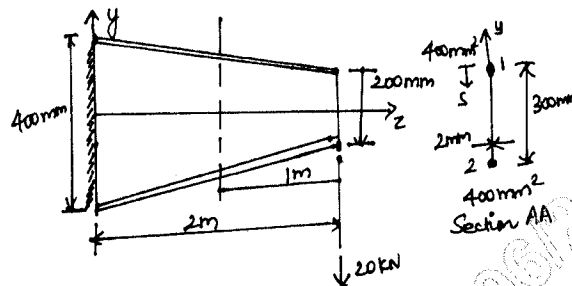

Fig Q7
- 7 Determine the shear flow distribution in the web of the tapered beam shown in Fig Q7(a) at a section midway along its length. The web of the beam has a thickness of 2mm and is fully effective in resisting direct stress. The beam tapers symmetrically about its horizontal centroidal axis and the cross sectional area of each flange is  $400\text{mm}^2$ . The internal bending moment and shear load at the section A-A produced by external load are  $M_x = 20\text{kNm}$  and  $S_y = -20\text{kN}$ . (16 Marks)